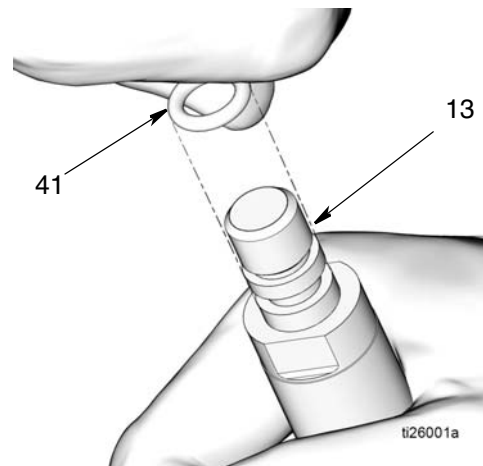

FIG. 23
- c. Remove o-ring (41) from the piston rod (13) (FIG. 23).